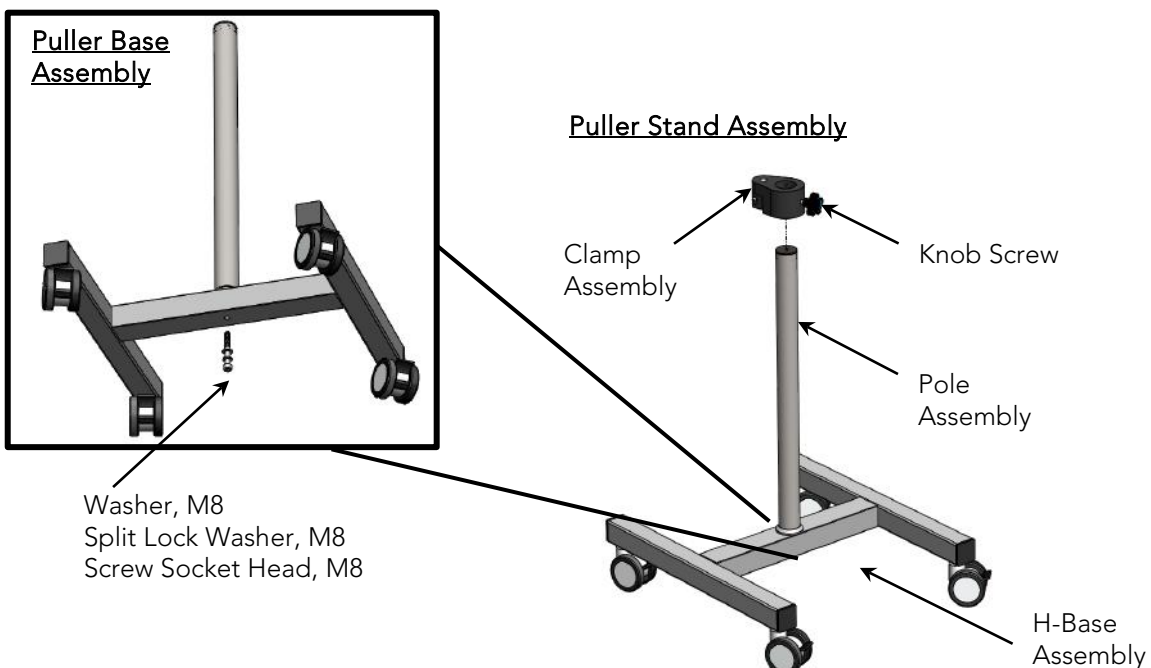

Figure 18: Puller Base and Puller Stand Assembly
1. Connect the Pole Assembly to the H-Base Assembly using the provided Washer M8, Split Washer M8, and Screw M8. Use the 6mm HEX L-KEY to secure the screw (Figure 18).
2. Slide the Clamp Assembly into the post of the Puller Base Assembly and lock it in position with the Knob Screw provided. Use a 4mm Hex L-Key to insert the Puller into the Clamp Assembly (Figure 18).